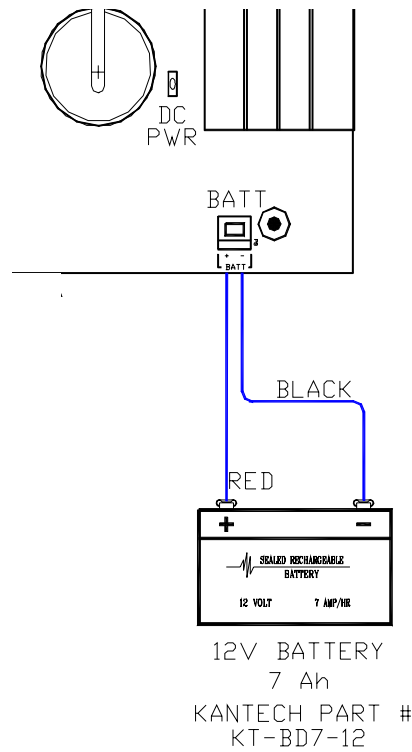

Figure 8. Connecting the Battery
- To connect the board to the battery, connect the battery to the RED and BLACK leads on the KT-NCC as illustrated in Figure 8 below.